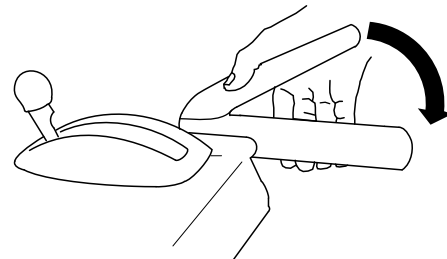

Figure 19
1. To engage the auger/impeller drive, squeeze the right (auger/impeller) lever to the handgrip (Figure 19).